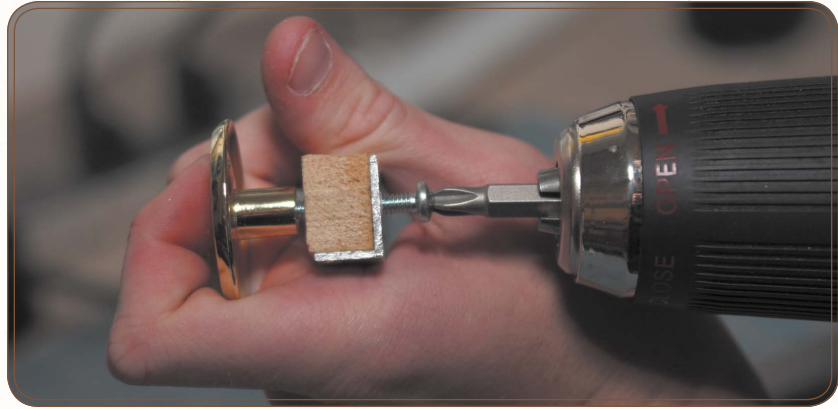

Figure 2.4: Attaching the knob
4. Attach the tapper knob as shown in Figure 2.4.